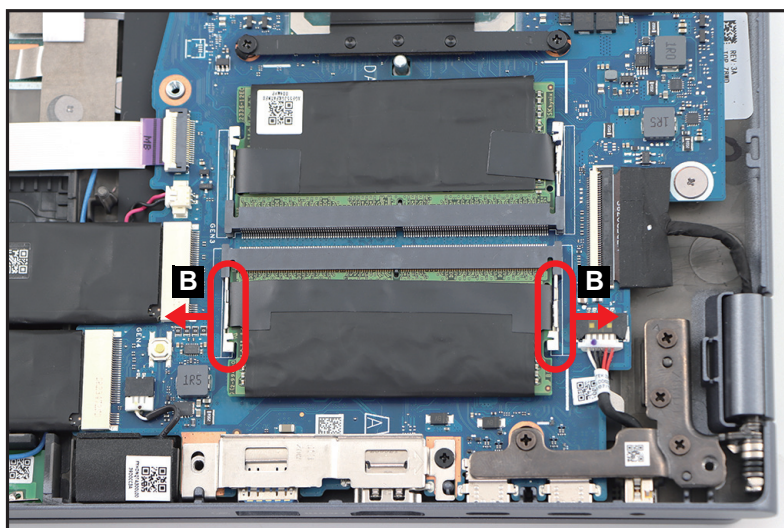

Figure 1-26. DIMM Module Removal
2. Push the DIMM module clips (B) outwards (Figure 1-26).